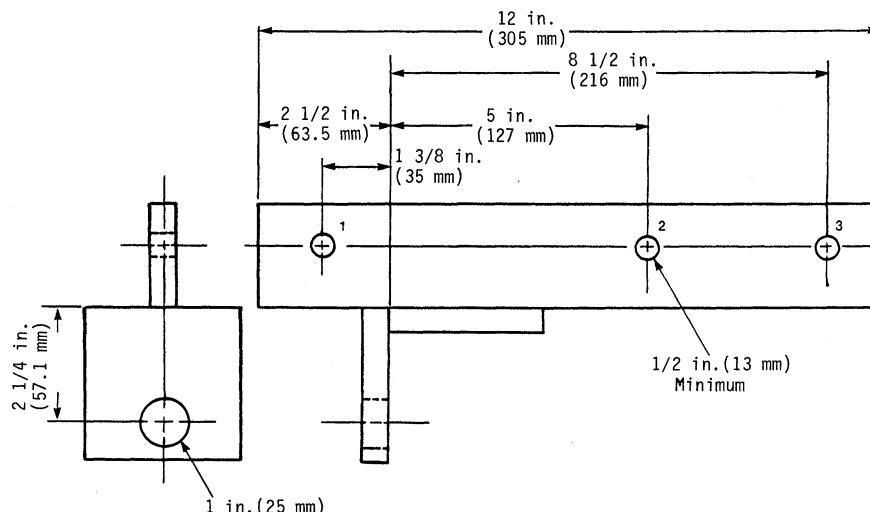

Fig. 278—Lifting tool shown in Fig. 277 may be fabricated from 1/2 inch (13 mm) steel plate using dimensions shown in above drawing.
254. R&R AND OVERHAUL. To remove knuckle-spindle assembly (Fig. 277), first support front axle and remove front wheel. Disconnect tie rod. Support knuckle-spindle with a hoist. Lifting tool (T) can be fabricated using dimensions shown in Fig. 278. Unbolt and remove knuckle-spindle from axle housing.
Fig. 277—Wheel hub and knuckle-spindle assembly can be removed as a unit from axle housing. Lifting tool (T) may be fabricated using dimensions given in Fig. 278.